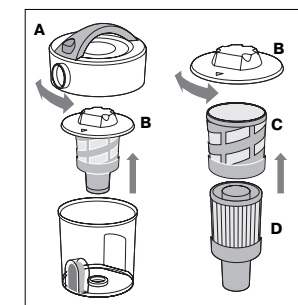

fig.6
2. Cleaning the filter element (Fig. 6)
- Turn the upper lid (A) of the dust collector anticlockwise and remove it.
- Turn the internal lid (B) anticlockwise and remove the filter element.
- To continue disassembling the filter element turn the internal lid (B) clockwise.
- Remove the gauze pre-filter (C) from the filter element.
- Wash the gauze pre-filter (C) with flowing water and let it dry completely.
- To clean the "Hepa" filter (D) you may either brush it or wash with flowing water.